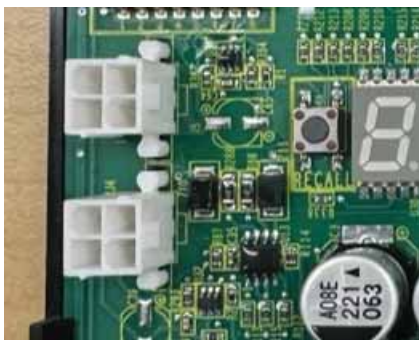

Figure 25. TwoStage Constant Torque Control
- 3 - Sensor wire must not block view of 7 segment LED . Ensure the cable is properly seated into the SENSOR 1 plug (LGWP1). The Molex plug clip should lock into the Molex connection point for a secured connection, as shown below in Figure 25. Verify the connection is free of dust, debris, and moisture.